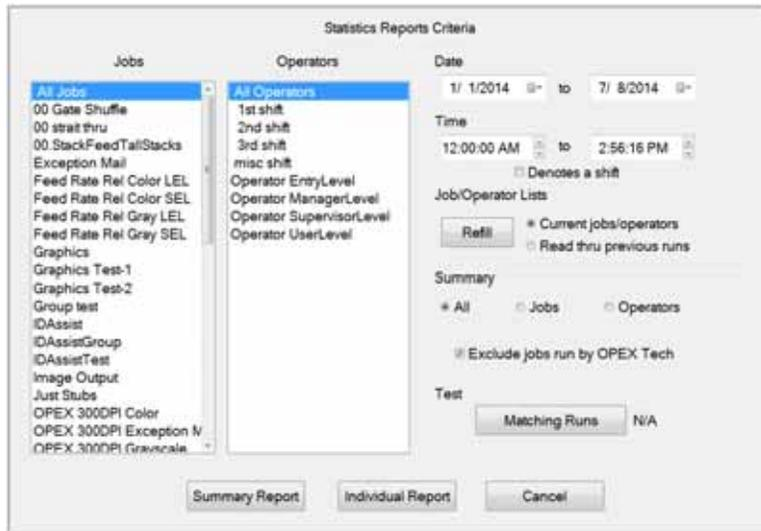

Figure 24: Statistics Report Criteria screen
- 2 In the Statistics Reports Criteria window, set the parameters for the report as shown in Figure 24:
- Date - set the start and end date for the report. In Figure 24, the Summary report was run for a single day, but virtually any range can be selected.
- Time - set the start and end time for the report. In Figure 24, these parameters were set to include the 3rd shift (12:00 AM-8:00 AM) and the first shift (8:00 AM to 4:00 PM).